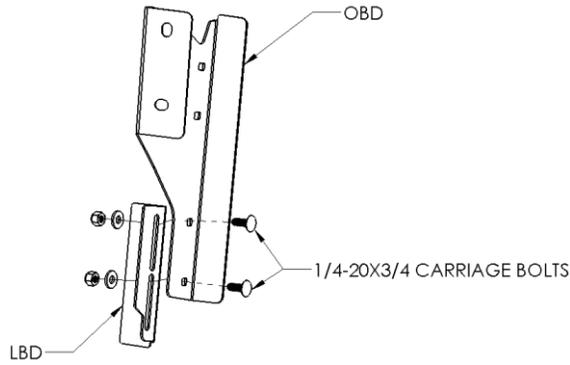

FIGURE 2 – Outer bracket sub-assembly, driver side shown
- i. Attach the Lower Brackets to the Outer Brackets with (2) carriage bolts (See FIGURE 2).